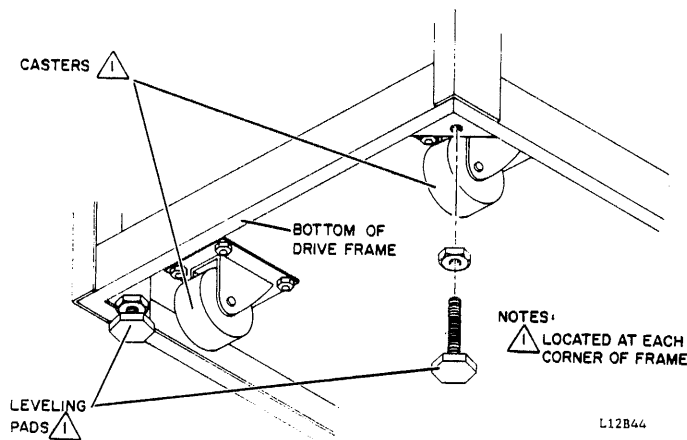

Figure 1-11. Leveling Procedure
1. Install jam nut on each leveling pad and install a leveling pad at each corner of cabinet frame (see figure 1-11) by raising corner of cabinet and threading leveler into weldnut on frame.